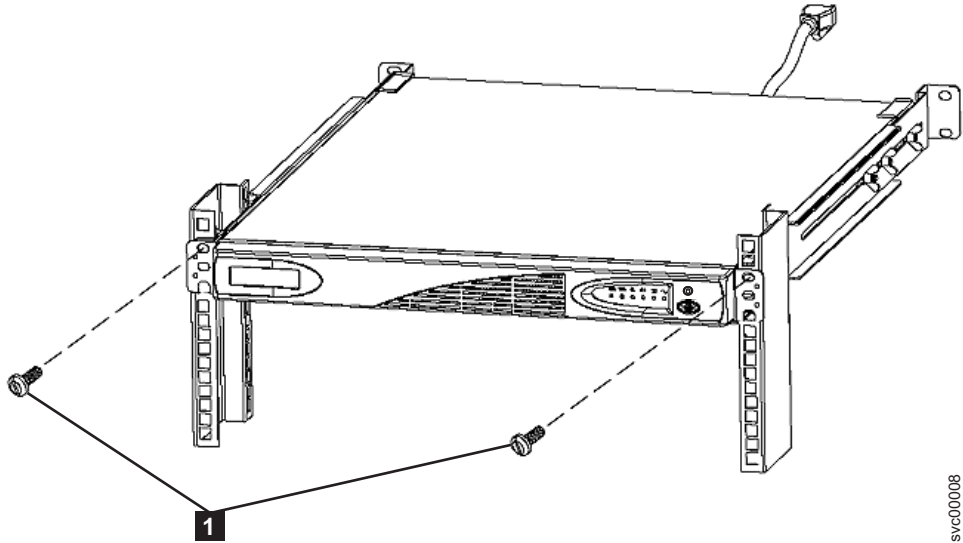

Figure 66. Mounting screws for the 2145-1U uninterruptible power supply
2. At the front of the 2145-1U uninterruptible power supply, install the two mounting screws (**1** in Figure 66 on page 82).